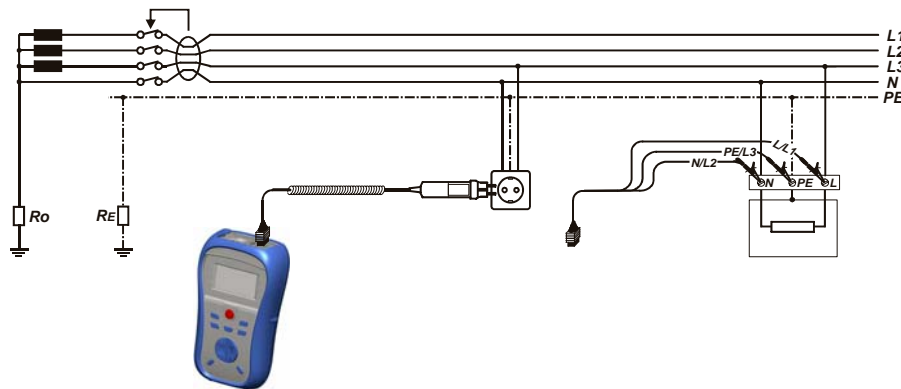

Figure 5.21: Connecting the plug cable and the universal test cable
- ❑ **Connect** test leads to the item to be tested (see figure 5.21).
- ❑ **Connect** test leads to the item to be tested (see *figure 5.21*).
<ul style="list-style-type: none"> <li>□ Select the RCD function using the function selector switch.</li> <li>□ Set sub-function AUTO.</li> <li>□ Set test parameters (if necessary).</li> <li>□ Connect test cable to the instrument.</li> <li>□ Connect test leads to the to the item to be tested (see figure 5.21).</li> <li>□ Press the TEST key to perform the test.</li> </ul>	Start of test